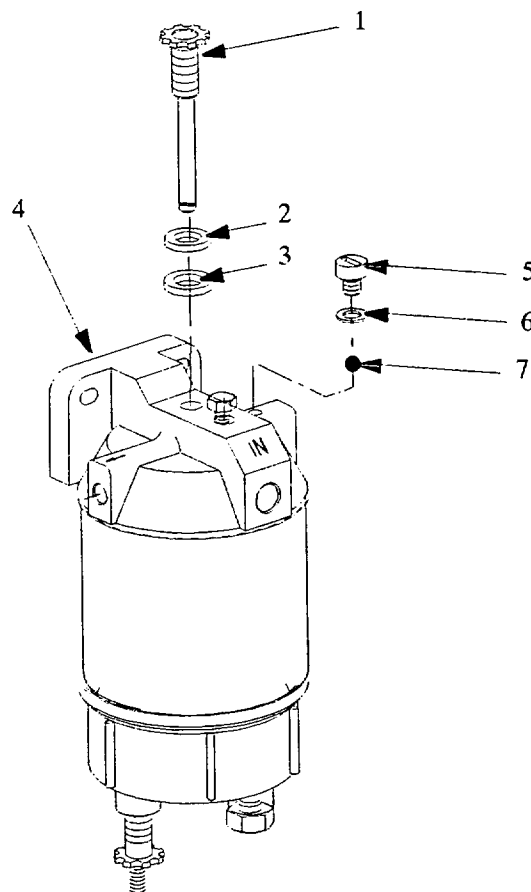

Figure 2-7.1. Priming Water Separator (Model 350 PAFN).
- **Do not use excessive force when priming the primer pump (1, figure 2-7.1). Use of excessive force could result in damage to the gasket (2, figure 2-7.1) and seat (3, figure 2-7.1) of the water separator (4, figure 2-7.1).**
- **Do not use excessive force when turning the vent plug (5, figure 2-7.1). Use of excessive force could result in damage to the o-ring (6, figure 2-7.1) and ball (7, figure 2-7.1).**
(1) Loosen vent plug (5 figure 2-7.1) on water separator (4, figure 2-7.1) and turn knob on primer pump (1, figure 2-7.1) counterclockwise. Prime the water separator by pulling up and pushing down on the knob until fuel purges at the vent plug. Close the vent plug and screw knob on primer pump into head on water separator.